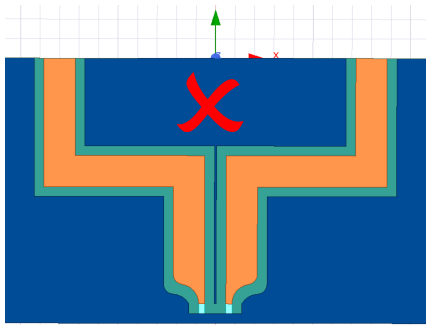

Figure 13: 90° bended track.
- Bends with 90° angle on the transmission line should be avoided as it will result in radiation and add unwanted reflections. Instead, curved transmission lines with a large radius (Min radius = width of the trace) should be used if needed as demonstrated in Figures 13 and 14.